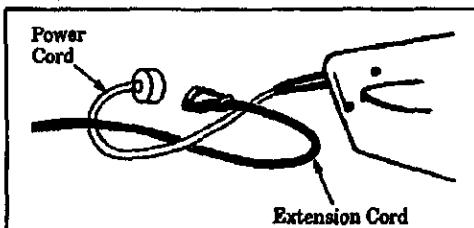

Figure 13
3. Secure extension cord to the power cord as shown in Figure 13 to prevent disconnection.